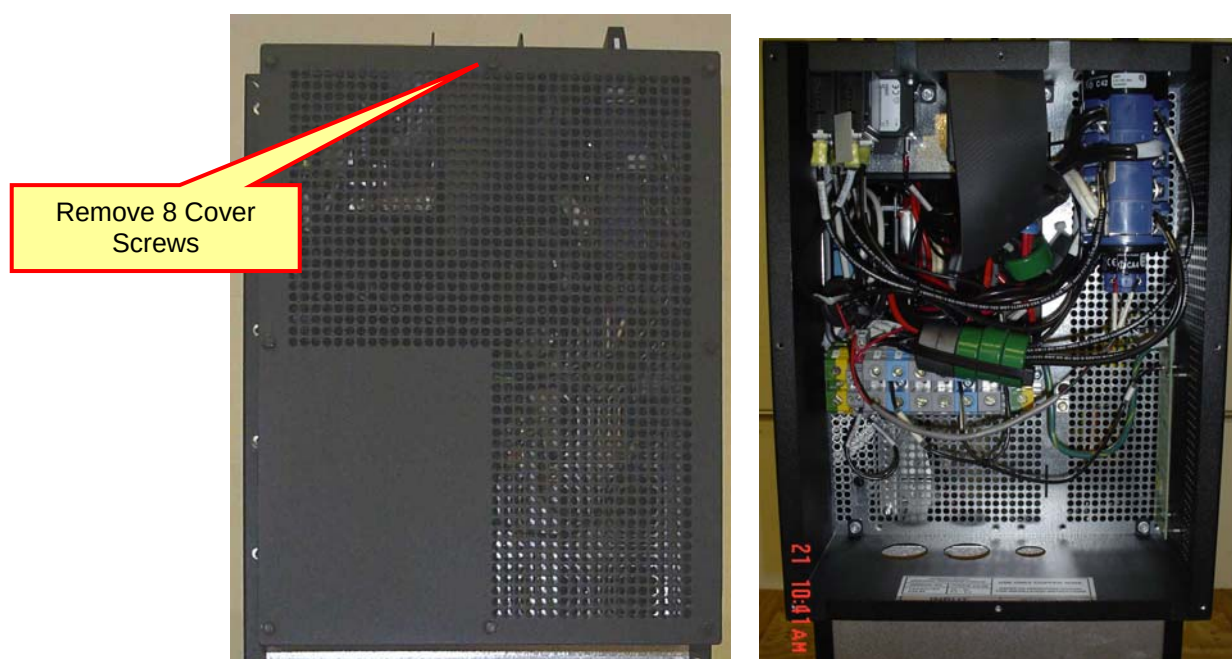

Figure 9 - UPS I/O Terminal Compartment
- 5) Install two 3/4" & one 1/2" cord grip fittings in rear of UPS as shown in Figure 9. Use reducer plates and hardware supplied in the kit as required. (Note: Enlarge small if required for cord grip installation.)